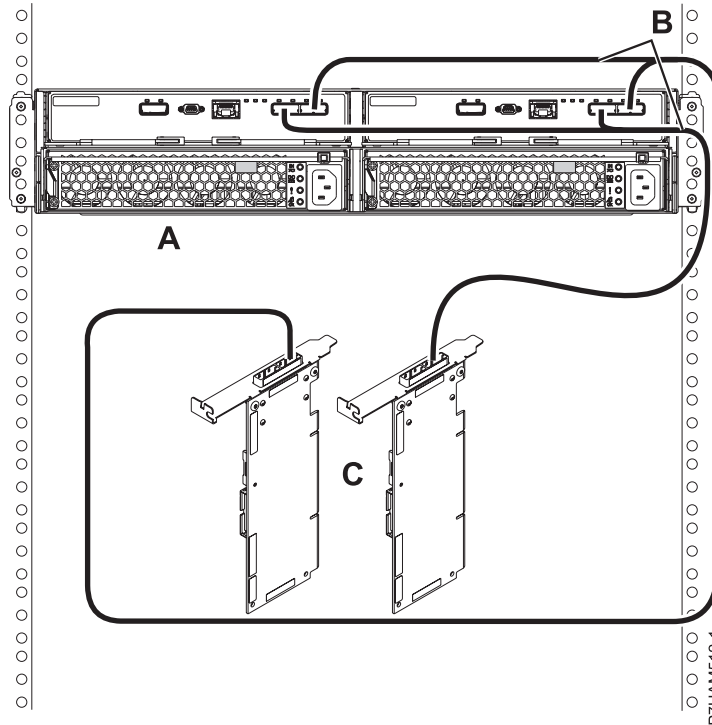

Figure 37. Mode 1 connection of one 58/87 disk drive enclosure by using YO cables to a SAS adapter pair
10. Perform the mode 1 connection of one 58/87 disk drive enclosure (A) by using YO cables (B) to a SAS adapter pair (C) as shown in Figure 37 on page 68.